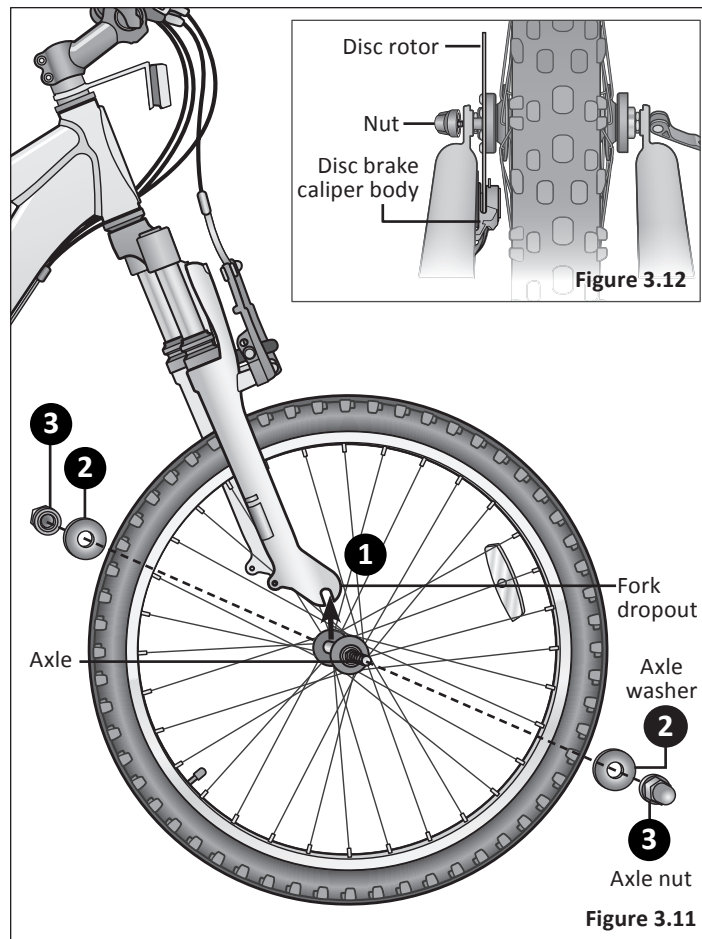

Figure 3.11
- 1 Position the front wheel between the front fork legs with the axle resting inside the fork drop outs. **Note:** If the front wheel has a disc brake insert the disc rotor into the slot on the caliper body as you insert the wheel axle into the fork drop out. **Important!** Be sure the wheel is as **centered** as possible between the fork legs. **Figure 3.11**